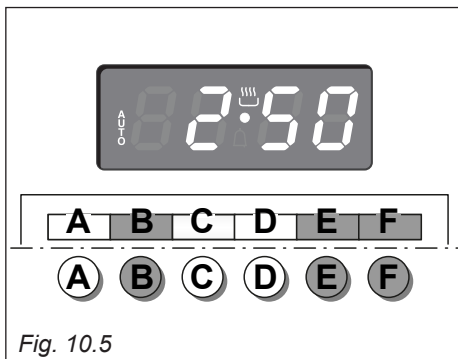

Fig. 10.5
1. Set the length of the cooking period by pushing the “B” button and the “F” button to increase or “E” to decrease if you have passed the desired time (fig. 10.5). The **AUTO** and the  symbol will illuminate.